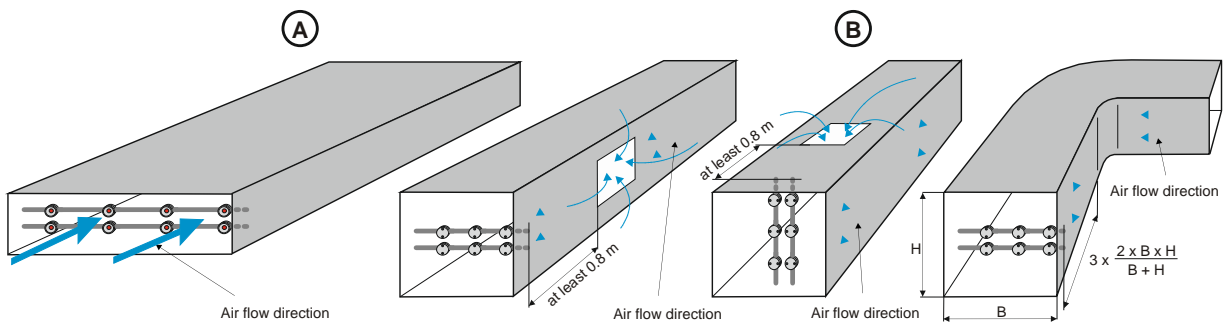

Fig. 13 Monitoring air-conditioning and ventilation ducts in compliance with EN 54-27
- The spacing to the first and last sampling holes must be 10 cm; the other sampling holes are uniformly spaced based on the channel inner measurement as shown in the table in **Fig. 13**.
- In principle, the position of the sampling branch and blow-out branch must be in the axis of the longer channel side, **Fig. 13 (A)**.
- If just before the monitoring location there is a ventilation slot, a channel feed or a bend, the minimum distance and the position of the sampling branch and blow-out branch must be selected accordingly, **Fig. 13 (B)**.